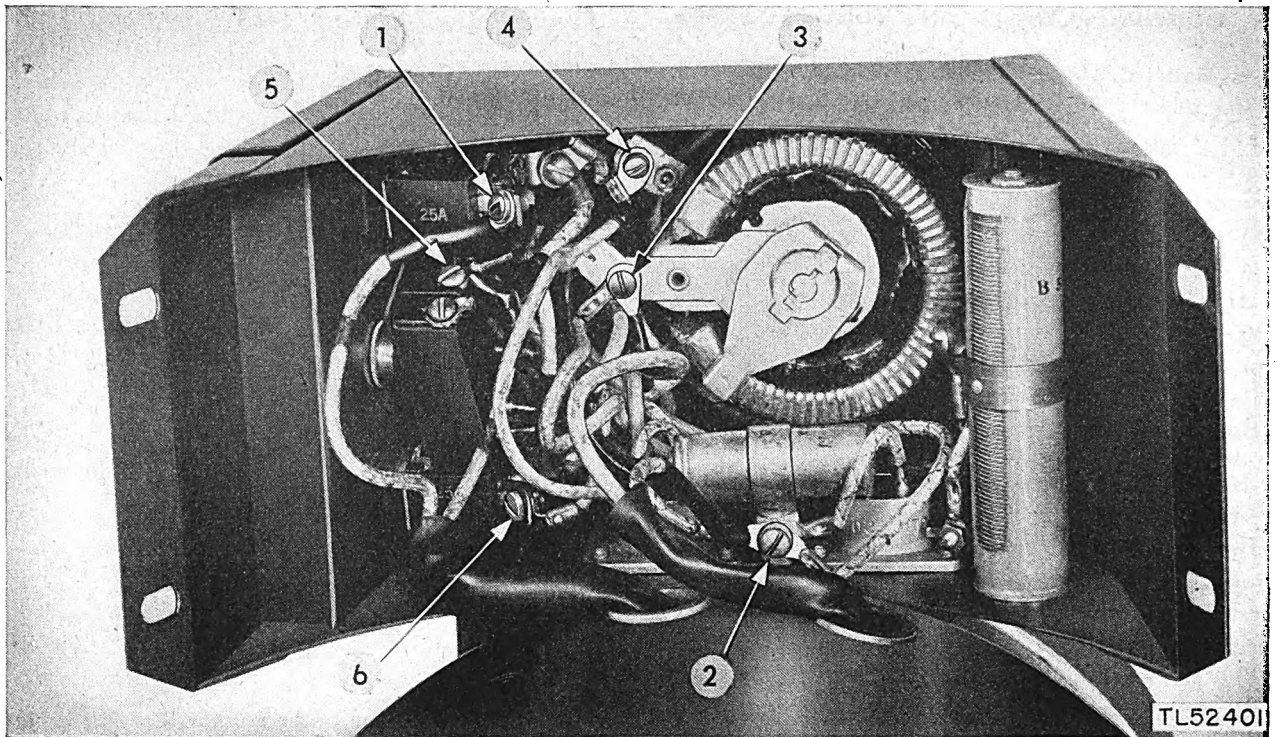

Figure 6. Removing control box.
(2) **DISASSEMBLY** (fig. 6). Remove the control box from the generator frame for baking and spraying. To disconnect the box, remove all the wires leading from the generator yoke as follows: